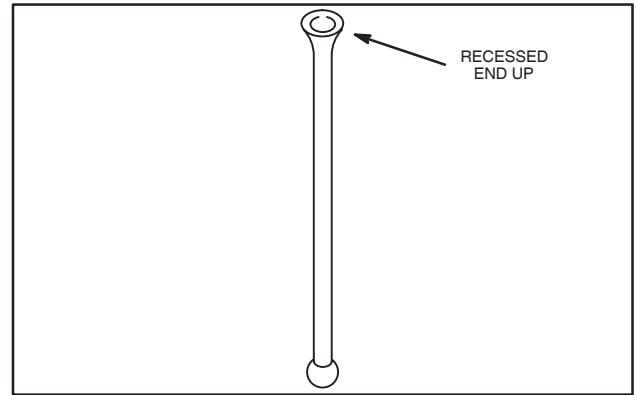

Fig. 34 – Install Push Rods
- Lubricate push rods with engine oil then install with recessed end up, Fig. 34.